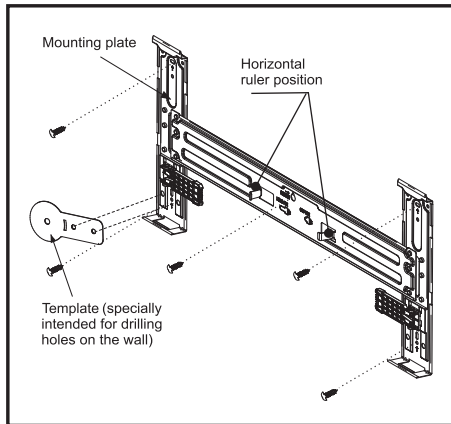

Fig. 1
- 5) Align the 2 holes of the template with the 2 holes of the mounting plate as shown in Fig. 1.
- 1) Decide the position of hole for piping according to the location of mounting plate (see the position and size of the template as shown in Fig. 1).
Note: If you have a hole on the wall, you need to align the round part of the paper board with the hole on the wall. Then align the 2 holes of the mounting plate with the 2 holes of the paper board (shown in fig. 1) to decide the installing location for the mounting plate.